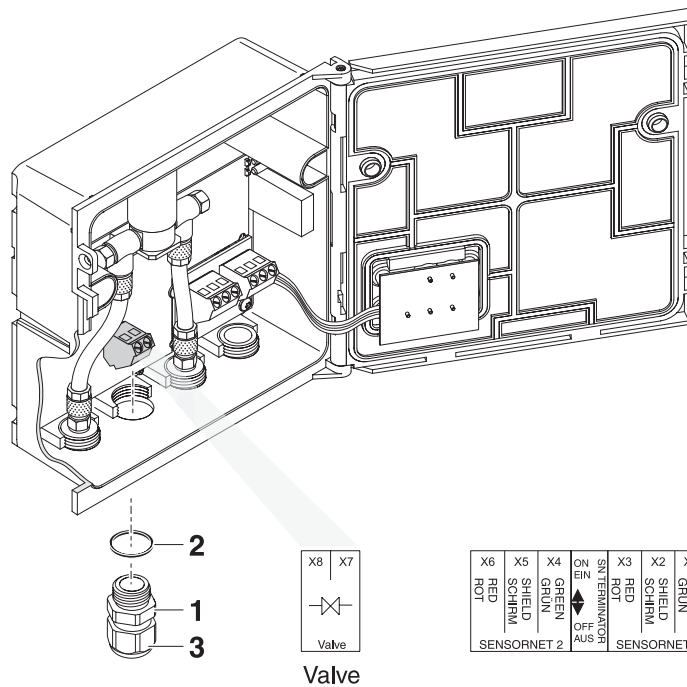

Fig. 3-14 Clamping termination for the valve control line
| 3 | Screw the cable gland (pos. 1 in Fig. 3-14) with the sealing ring (pos. 2) into the module housing. |
| 4 | Loosen the coupling ring (pos. 3 in Fig. 3-14). |
7	Loosen the coupling ring (pos. 3 in Fig. 3-14).